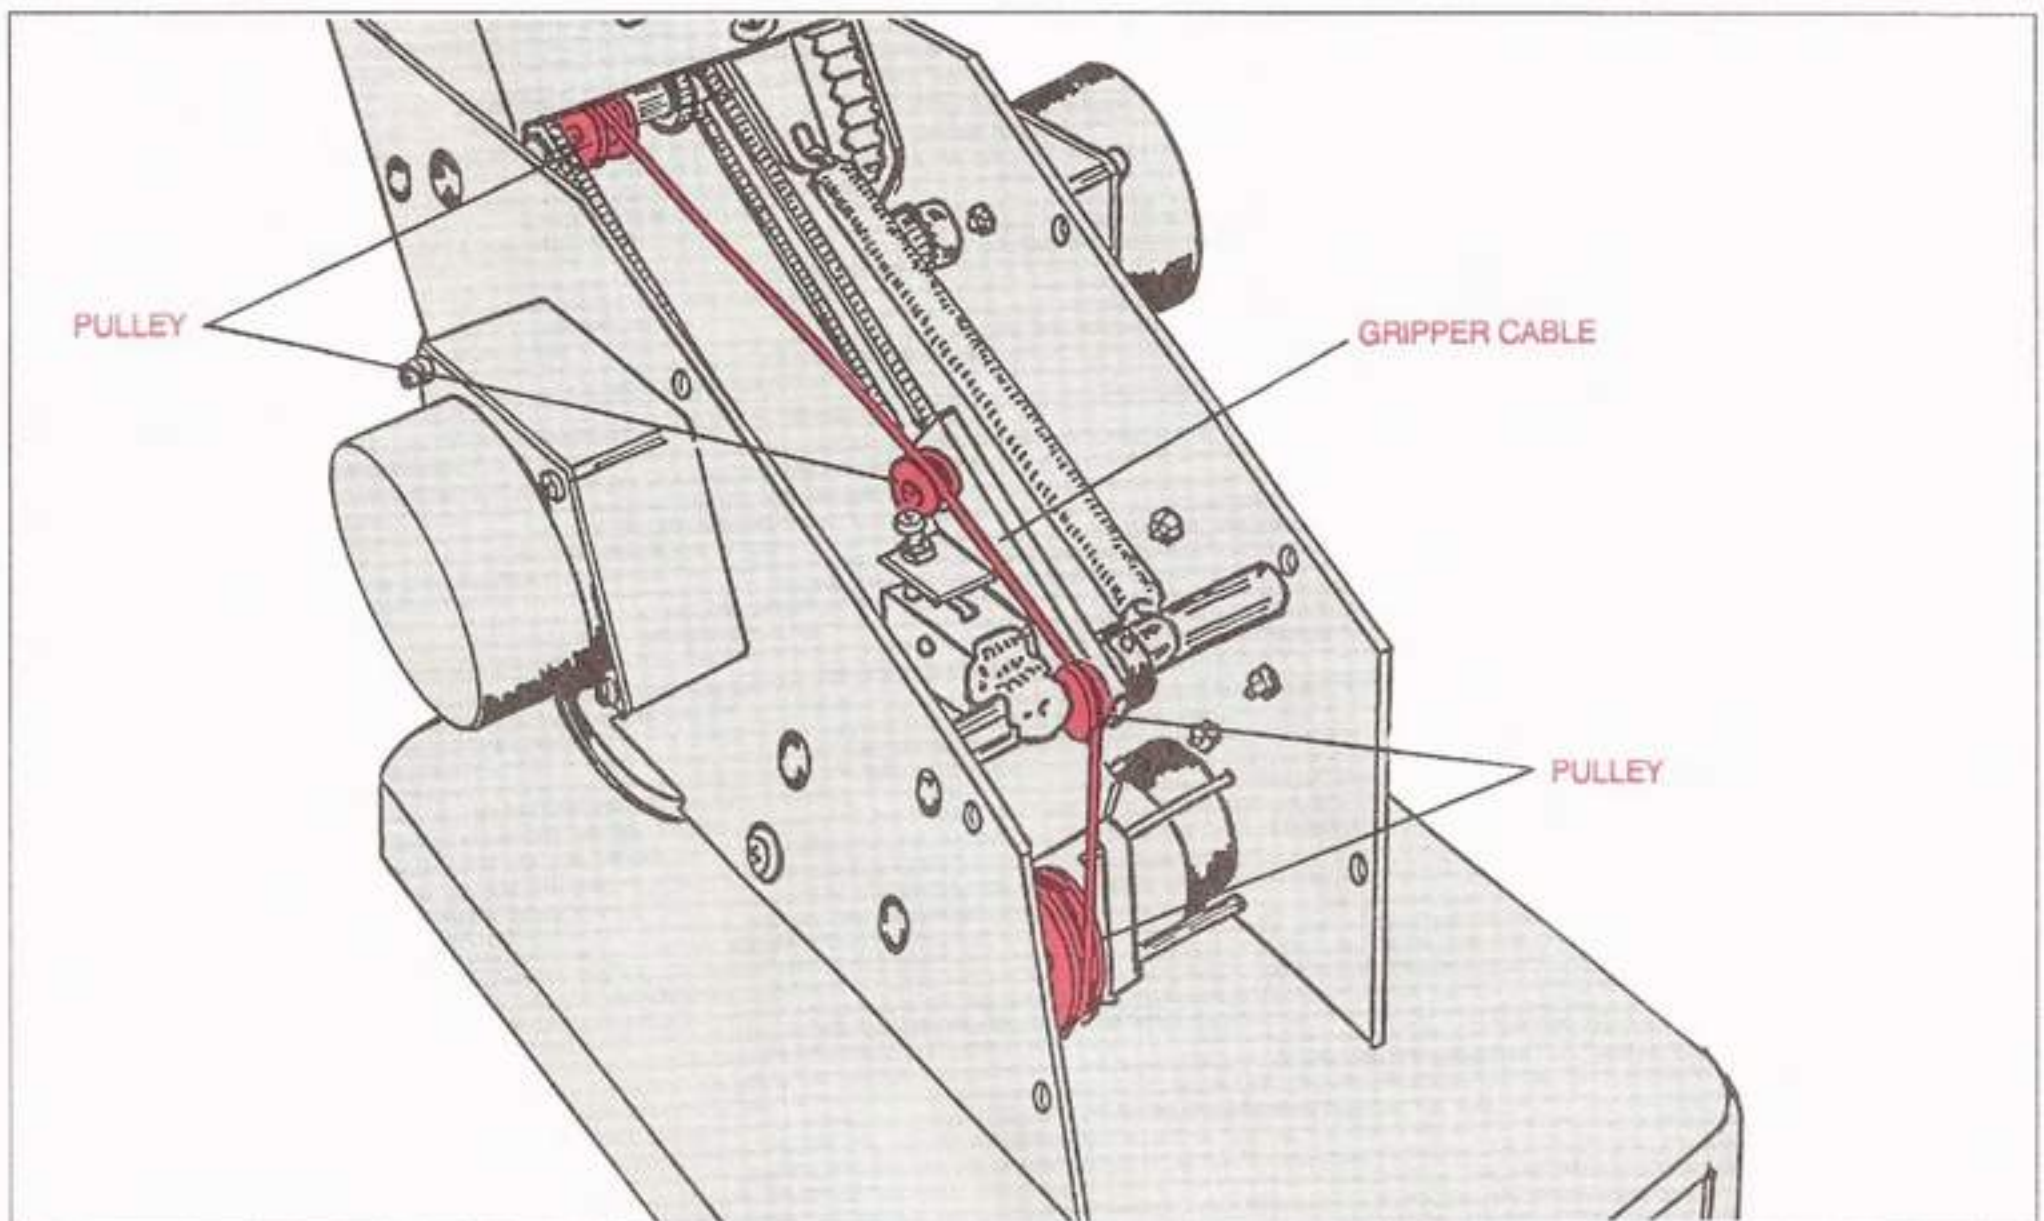

Fig. 96: The Gripper Cable and Pulley Arrangement
- ___ c. Observe the gripper cable and pulley arrangement, and the gripper limit switch, as shown in Fig. 96. Check to see if the cable is binding between the flywheel and the gripper motor M6, or if it has slipped off any of its pulleys.